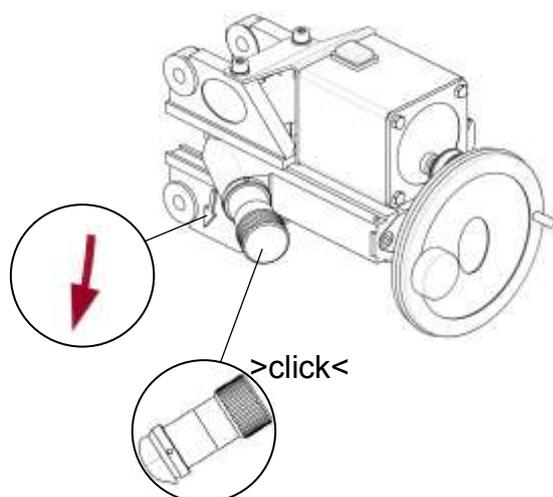

Fig. 59
1. Determine the correct rotation direction of the Drive Unit, see arrow on the Lathe, Fig. 59.
9. One click equals 0.05 mm (0.002 inch). Fig. 59.